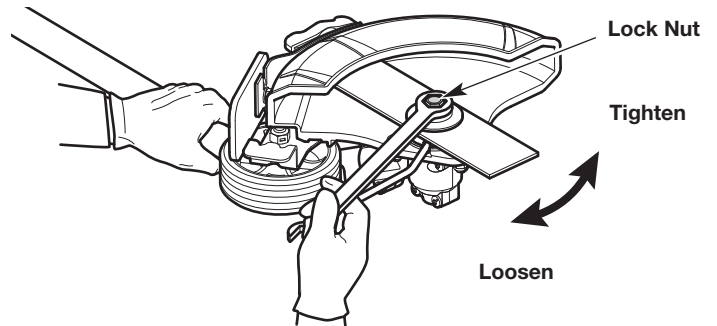

Fig. 25
3. While holding the locking rod, loosen the lock nut by turning it **clockwise** with a 13 mm wrench (Fig. 25).
6. While holding the locking rod, tighten the lock nut by turning it **counterclockwise** (Fig. 25). Make sure that the edger blade stays flat and centered against the output shaft while tightening the lock nut.